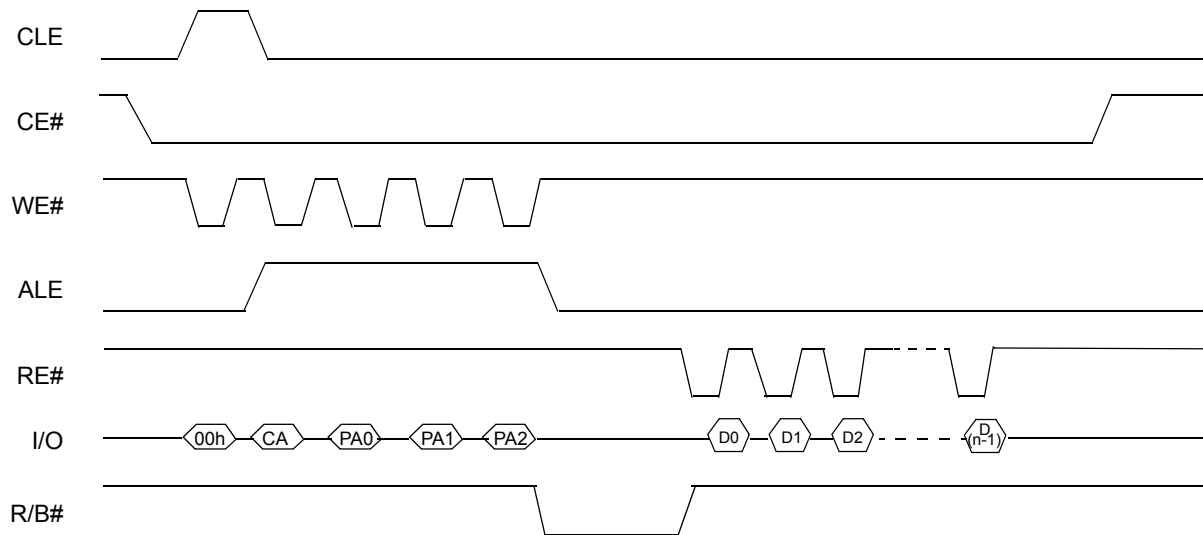

Figure 5-56. Flash Controller NAND Read Cycle
- Figure 5-56 on page 184 shows a basic NAND read cycle.